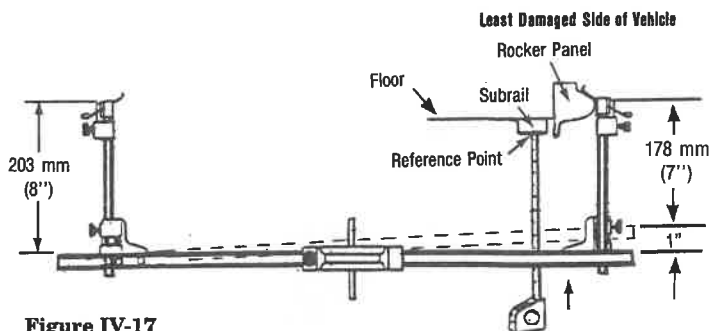

Figure IV-17
- 4) Raise the bar on the least damaged side of the vehicle 25 mm (1 inch) and tighten the thumb screw on the scale housing. (See Figure IV-17.)